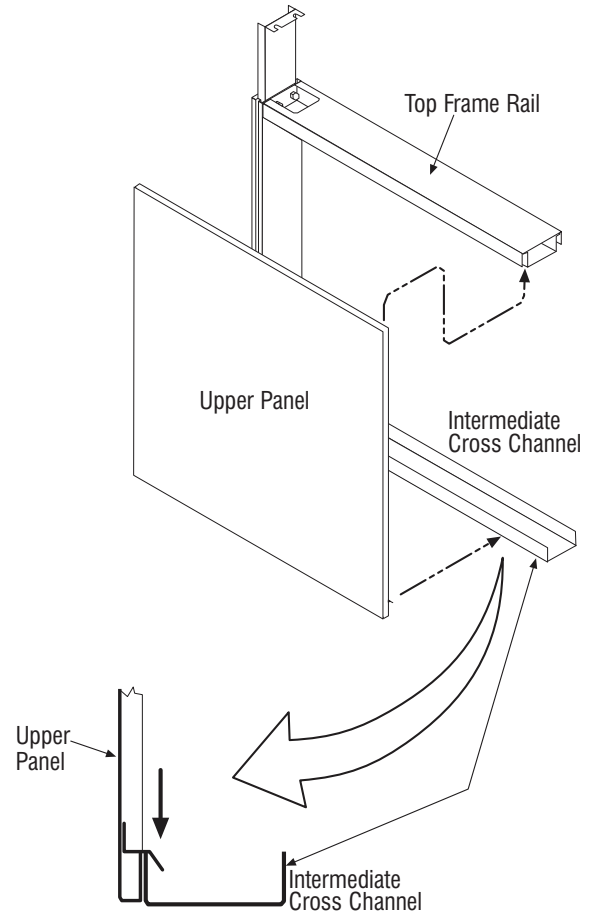

Figure 3-23 Upper Facing Panels
3. Allow the panel to slide downward to engage the angled locking flange onto the intermediate rail. See Figure 3-23.